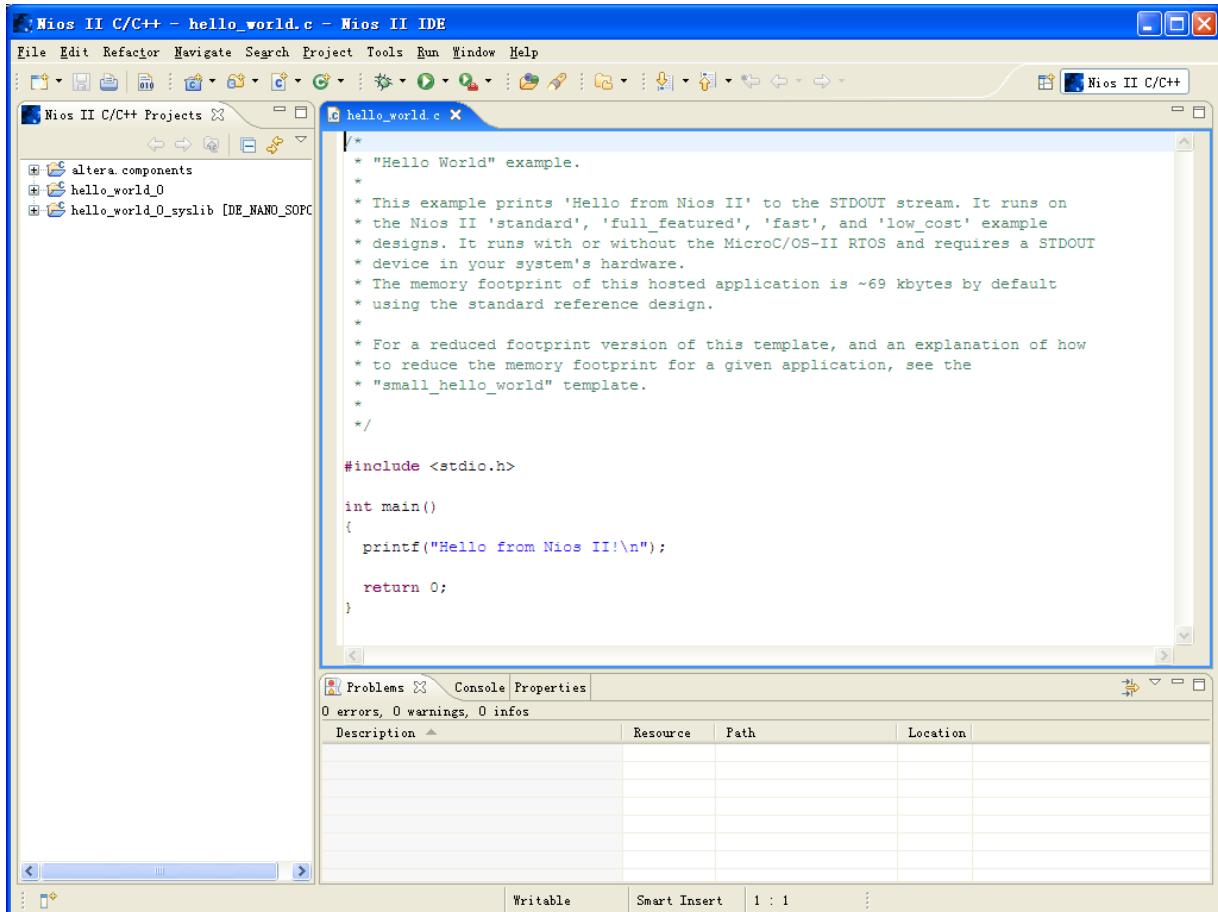

Figure 7-56 Nios II IDE C++ Project Perspective for `hello_world_0`
5. Click **Finish**. The NIOS II IDE creates the **hello\_world\_0** project and returns to the NIOS II C/C++ project perspective, as shown in **Figure 7-56**.